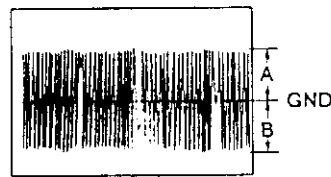

Fig. 2 Maximum amplitude
6. Slowly turn the grating counterclockwise from the on track position until the waveform amplitude becomes maximum. (Fig. 2)
2. Adjust VR602 so that the positive and negative amplitudes of the TRKG error waveform become equal. (Fig. 2)